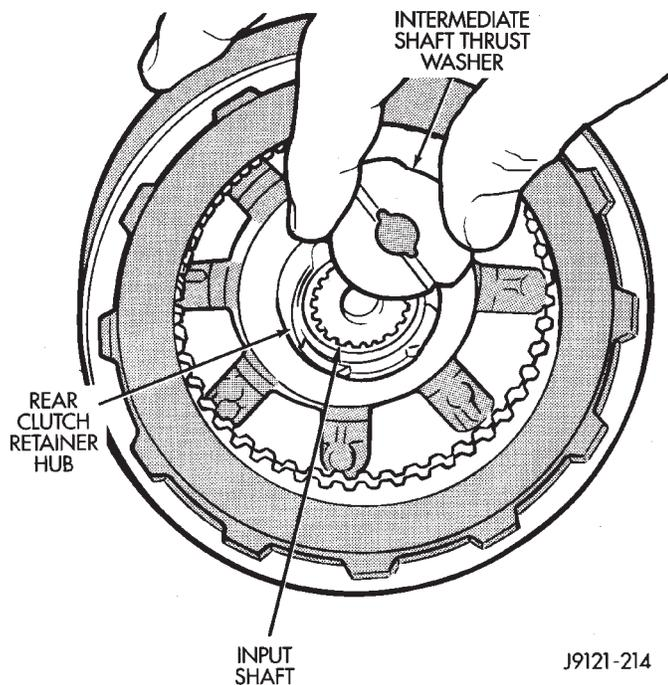

Fig. 143 Installing Intermediate Shaft Thrust Plate
(14) Coat intermediate shaft thrust washer with petroleum jelly. Then install washer in rear clutch hub (Fig. 143). Use enough petroleum jelly to hold washer in place. **Be sure grooved side of washer faces rearward (toward output shaft) as shown. Also note that washer only fits one way in clutch hub.** Note thickness of this washer. It is a select fit part and is used to control transmission end play.